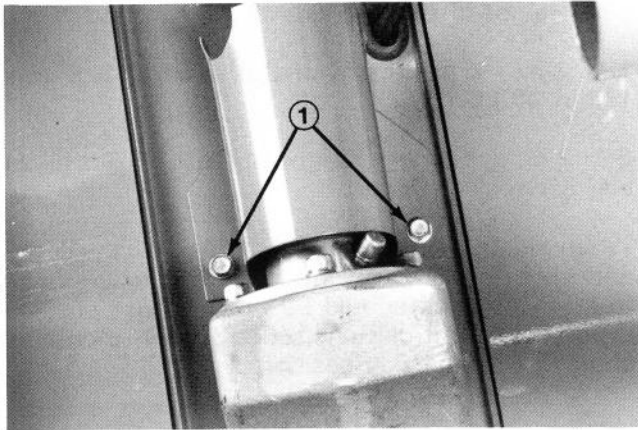

Figure 13
2. Mount PTO shield over input shaft and onto gear box mounting plate with two self tapping screws (Fig. 13).